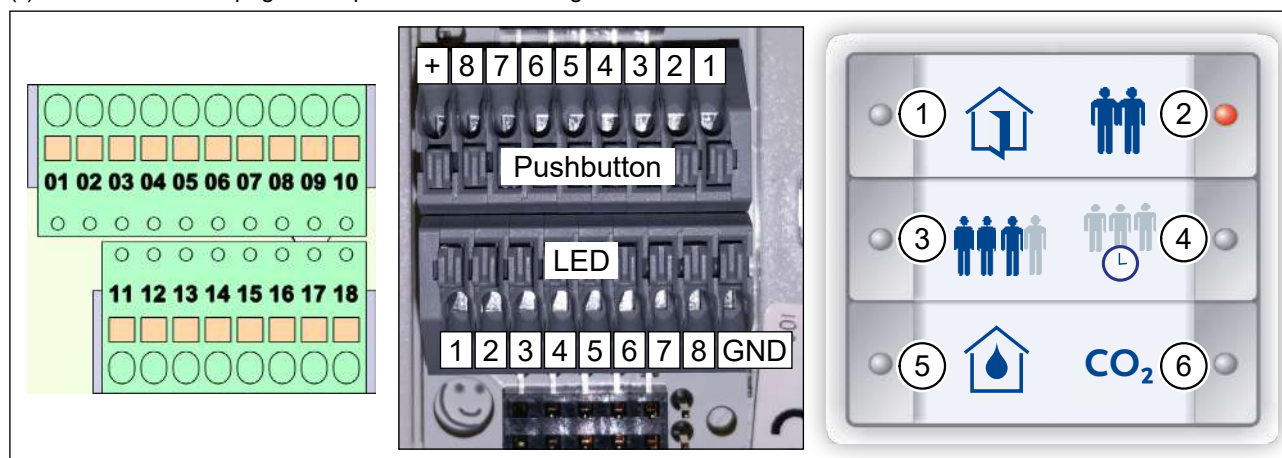

Fig. 32: Terminal blocks on ventilation unit, terminal blocks on InControl pushbutton sensor, insert sheet
- After wiring, place the insert sheet (Fig. 32) in the InControl pushbutton sensor.